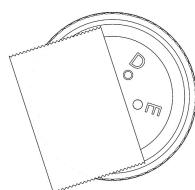

Figure 1
- If the gas exchange needs to be reduced, individual openings can be sealed with laboratory grade labels or tape (Figure 1).